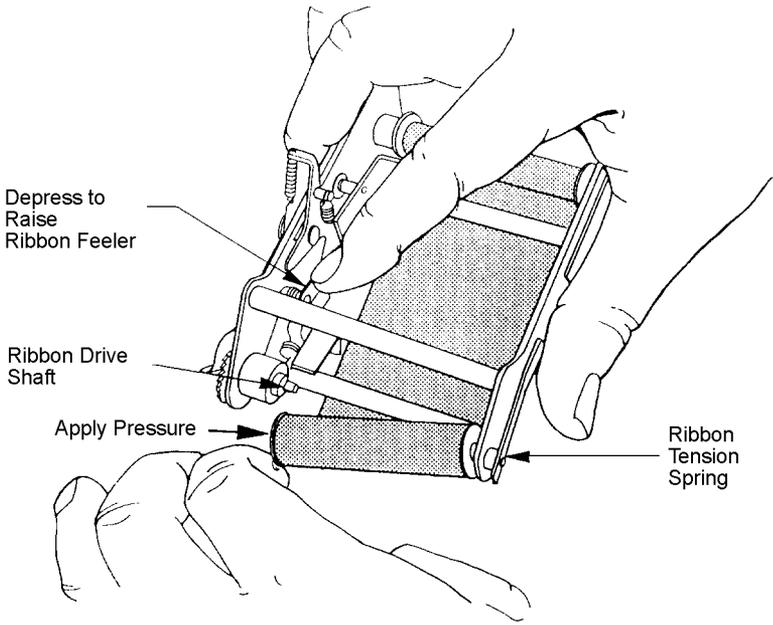

FIGURE 6
5. Start with the spool on the left hand side of the assembly, depress and hold down the ribbon feeler lever. This allows the spool to turn freely. Push the back of the spool towards you until it is clear of the ribbon drive shaft, then pull the front of the spool off of its stud. (See Figure 6).
8. Starting with the spool on the left side, depress and hold down the ribbon feeler lever. With your other hand, slide the new spool onto the stud mounted on the Ribbon Tension Spring. Apply pressure to the spring/spool and pivot the spool so that the other end can be mounted onto the ribbon drive shaft. (See Figure 6). NOTE: Rotate the spool (with the ribbon feeler lever depressed) slightly to correctly seat the ribbon drive shaft, if necessary.